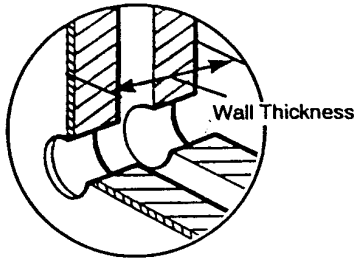

Fig. 22
1. Measure the wall thickness (Fig. 22) and to this dimension add 60mm ( $2\frac{3}{8}$  in).